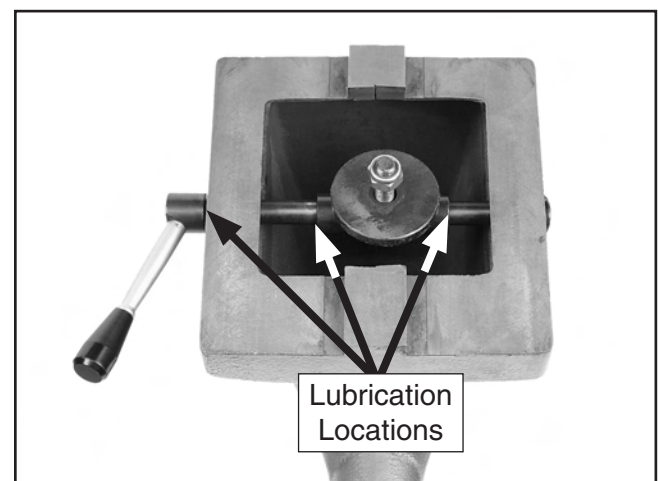

Figure 52. Locations to lubricate tailstock.
3. Place a couple drops of light machine oil at each of the locations shown in **Figure 52**.